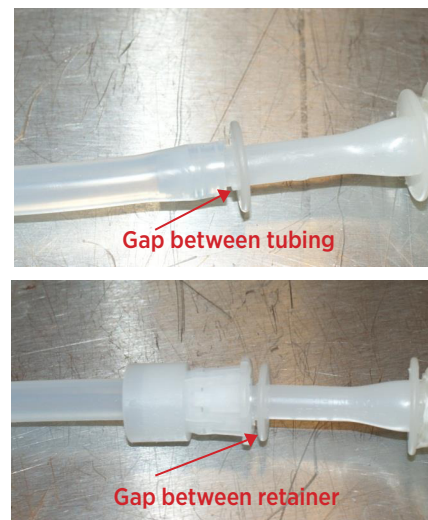
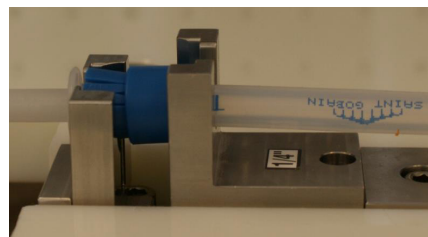

Figure 4: Proper Fitting Assembly
Figure 5: 2 Piece BarbLock® Orientation
1. Build an assembly with BarbLock® sleeve, collet, tubing and fitting and place the assembly in the jaws of the device. It is important to note that the proper installation process is required for the machinery to work properly. Figure 5 shows the proper assembly procedure. First, there must be a small gap between the tube stops and tubing. The BarbLock® can then be installed with approximately a 0.1" gap between the edge of the fitting and the edge of the BarbLock® retainer. Proper assembly will ensure that the fitting is secured properly in the JAWs (Figure 4).
4. Figure 5 and Figure 6 show proper orientation of BarbLock for closure.